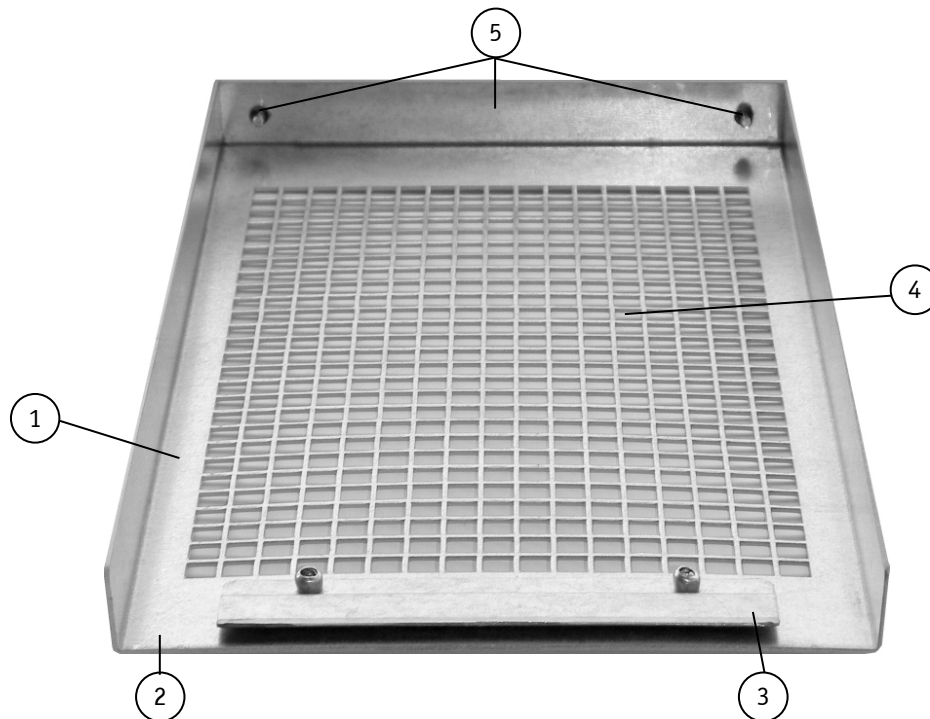
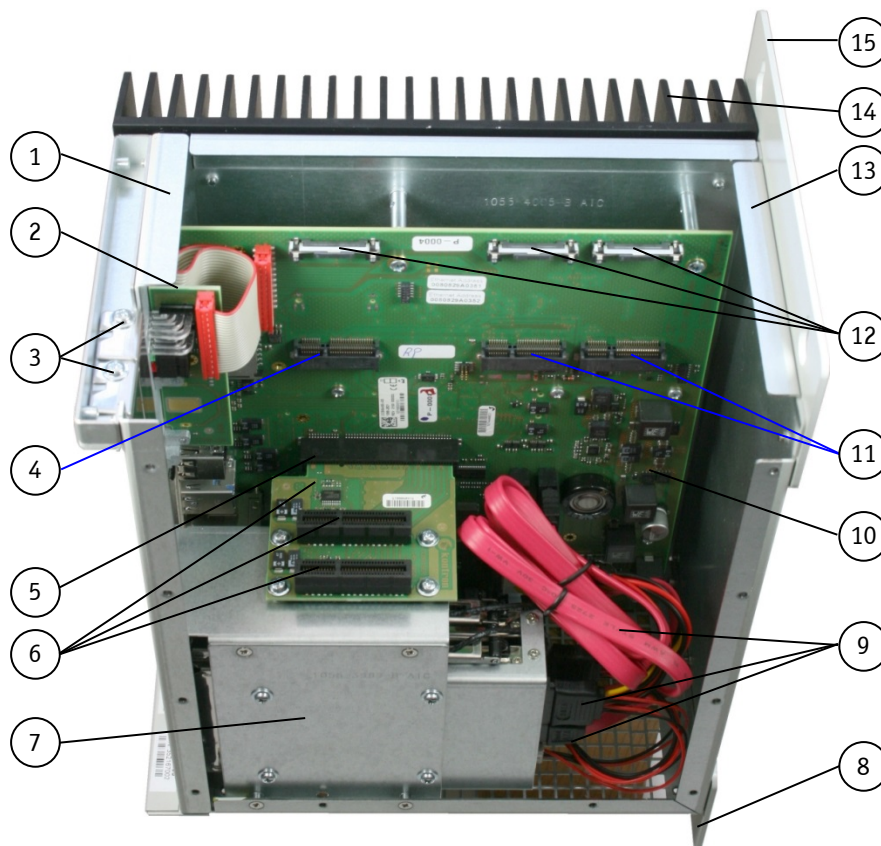

Fig. 37: Inside of the top cover with centering and fixing brackets
Fig. 42: KBox C-101-2 - internal view (shown with a PCIe riser card and removable HDD/SSD drive bay)
The cover will be fixed to the chassis using the centering bracket at the rear side of the cover (Fig. 37, pos. 3) and the fixing bracket with captive knurled screws at the front side of the cover (Fig. 37, pos. 5).
- ❑ At the rear the centering bracket (Fig. 37, pos. 3) is inserted properly into the corresponding cover retaining bracket of the chassis (Fig. 42, pos. 13).
- ❑ At the front side the fixing bracket with captive knurled screws of the cover (Fig. 37, pos. 5), is matching properly over the cover retaining bracket on the front side (Fig. 42, pos. 1).
The fixing bracket with captive knurled screws (Fig. 37, pos. 5) secures the top cover on the front side (Fig. 58, pos. 2).
The KBox C-101 provides two internal Mini PCIe sockets. You can see one of them in Fig. 42, pos. 4. The second Mini PCIe socket is on the bottom side of the baseboard and can be only at factory equipped with an expansion card.
The KBox C-101 provides two internal Mini PCIe sockets for PCIe mini cards. One of them is internally accessible (Fig. 42, pos. 4). The second Mini PCIe socket is on the bottom side of the baseboard and can be only at factory equipped with an expansion card.
For installation/removing of the PCIe mini card (Fig. 42, pos. 4), please refer to subsection 9.3.6 "Installing/Removing the PCIe Mini Card".